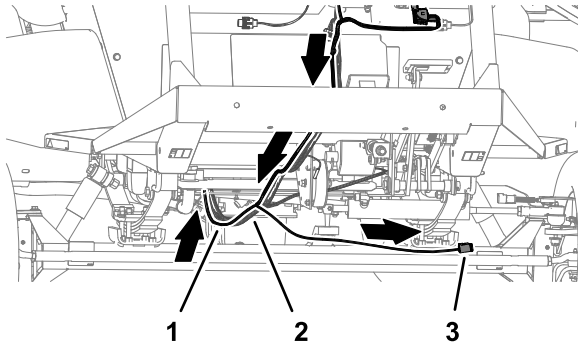

Figure 86
1. Route the wire harness for the kit rearward, along the wire harness for the machine (Figure 86).
2. Route the wire harness branch with the connector labeled WHEEL ANGLE SENSOR along the back of the front axle tube (Figure 86).